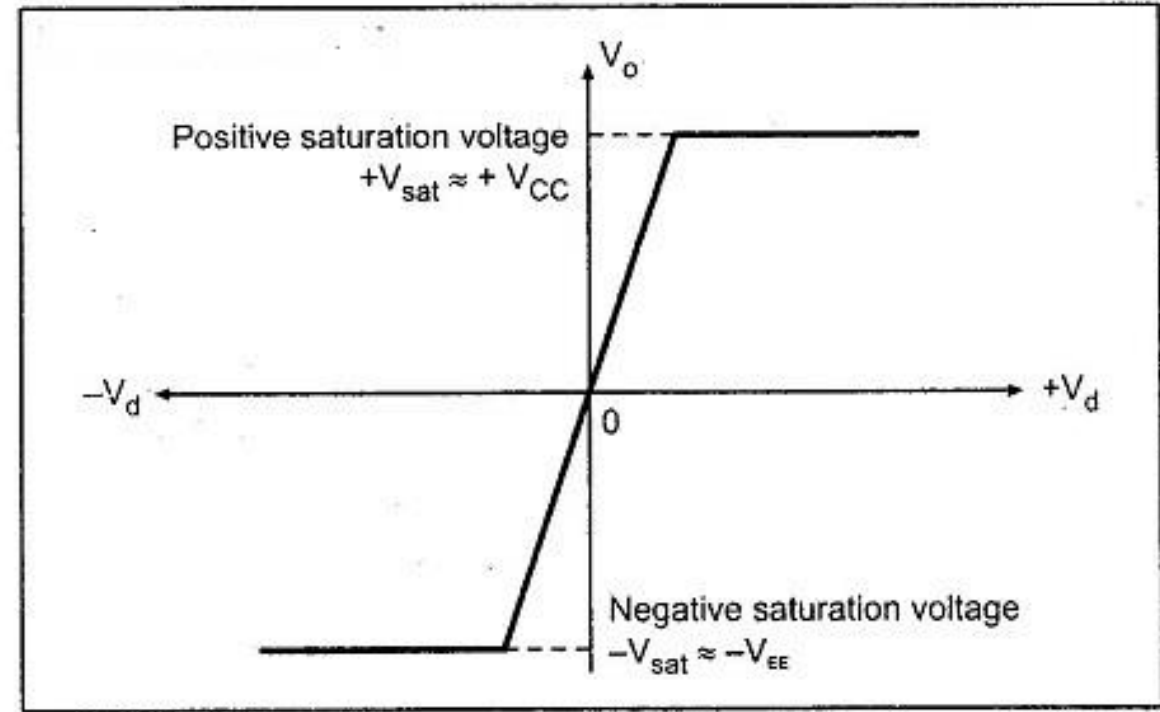

Fig. 8. Ideal voltage transfer curve
- The ideal voltage transfer curve (assuming output offset voltage is zero) is shown in Fig. 8.